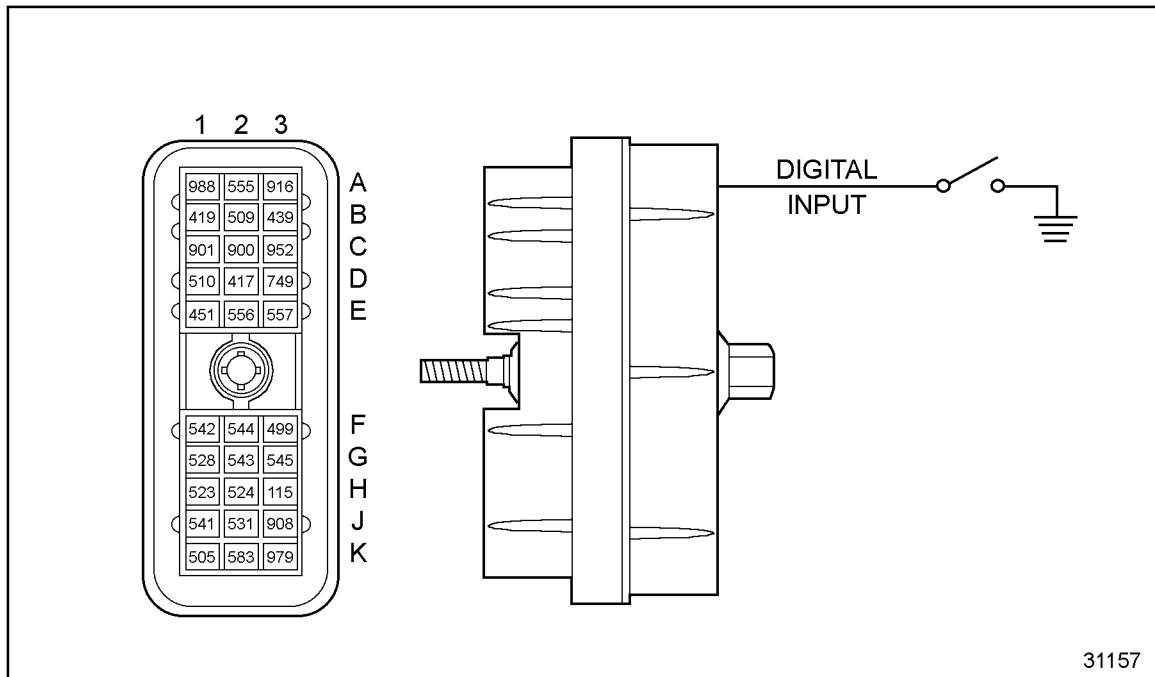

Figure 10-11 ECM Vehicle Harness Connector
5. Observe the status when the feature is active (or supposed to be active). See Figure 10-11.